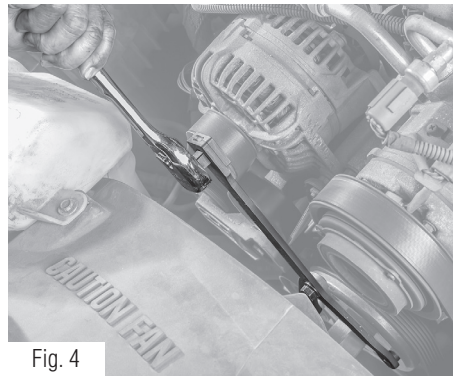

Fig. 4
4. Place ½” Drive Ratchet or Breaker Bar onto the Drive End of the Spanner Wrench (Fig. 4). (Pulley Holder)